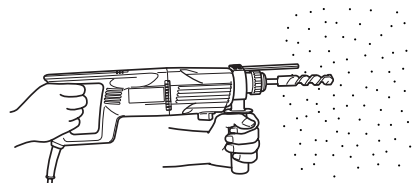

Fig. 7
- (1) Mount the drill bit.
- (2) Pull the trigger switch after applying the drill bit tip to the drilling position. (Fig. 7)
- (3) Pushing the rotary hammer forcibly is not necessary at all. Pushing slightly so that drill dust comes out gradually is just sufficient.
- When the drill bit touches an iron reinforcing rod, the bit will stop immediately and the rotary hammer will react to revolve. Therefore please grip the side handle and handle tightly as shown in Fig. 7.